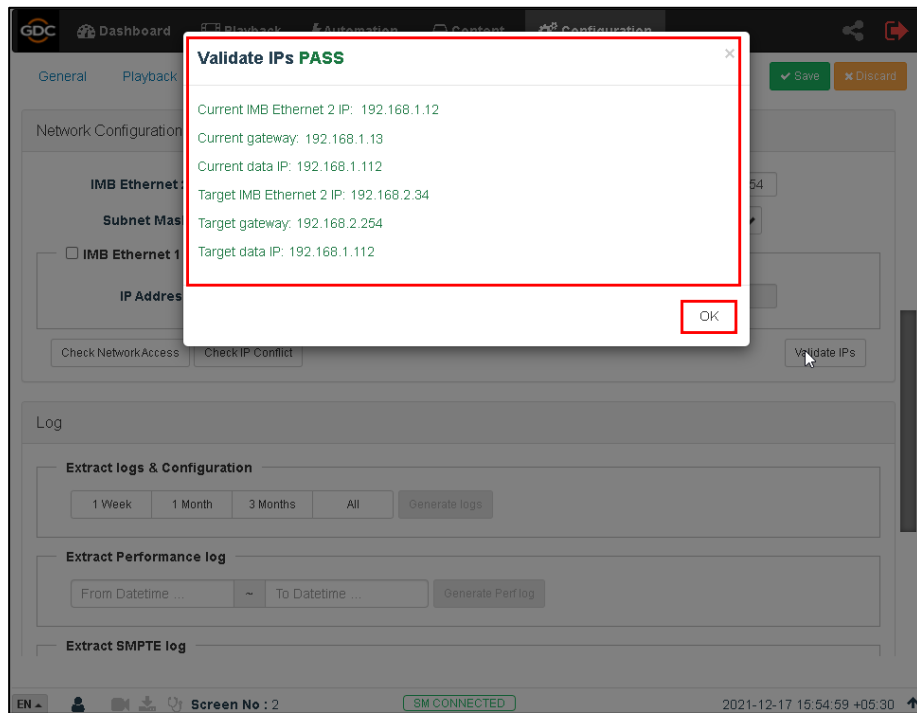

Figure 14: Network Configuration settings
6. If all of the IP addresses are valid, a popup window will appear as shown in **Figure 14**.